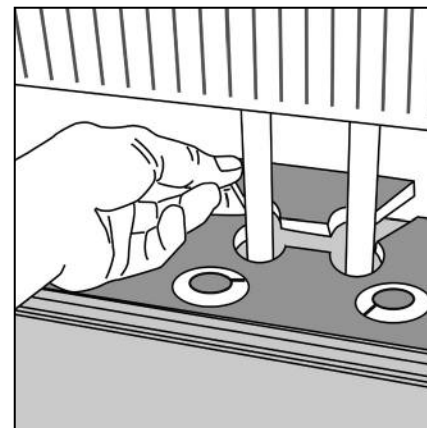

Figure 8 Radiator pipes
- > If necessary, put a bead of contact glue on the cut piece and replace (fig 8). Insert a spacer directly behind the inserted piece to wedge it in place ensuring that the correct sized expansion gap has been left. Leave this in place until the glue has hardened.